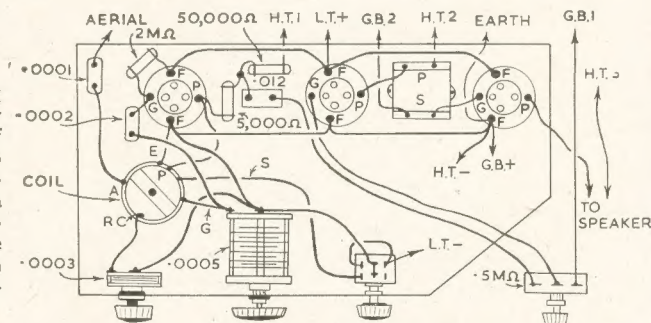
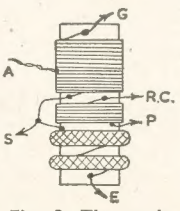

Fig. 2—A complete wiring plan
Fig. 3—The tuning coil windings
A complete wiring plan is given in Fig. 2. All the parts should be fixed securely and all connections should be well made with insulated wire. The constructor who has not previously made a receiver and wishes for proper reception from the moment of switching on should follow the diagram carefully and check afterwards to assure all leads are as indicated.
Constructors wishing to wind their own coils should follow Fig. 3. The tube is  $1\frac{1}{2}$  ins. in diameter. The ends of the windings are lettered to agree with Fig. 2, and are as follows: (G) to grid condenser; (A) to aerial condenser; (S) to switch; (E) to earth (H.T. negative); (P) to detector plate; (RC) to reaction condenser. All turns must be wound in the same direction.